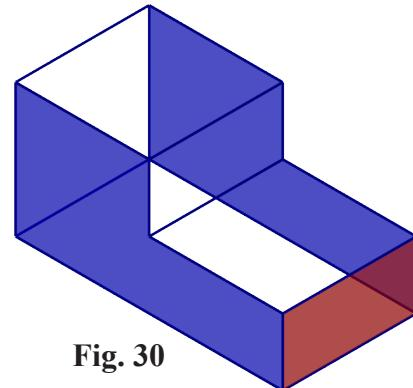

Fig. 30
Step 17. In Flat Boundary Surface function panel click **OK** and **Create New Operation**  , Fig. 30.